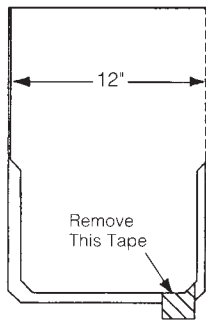

Figure 16-18: Shangle® Ridge.
5. Before nailing, be sure to remove the protective tape from the sealant between the cap's two layers (Figure 16-18).